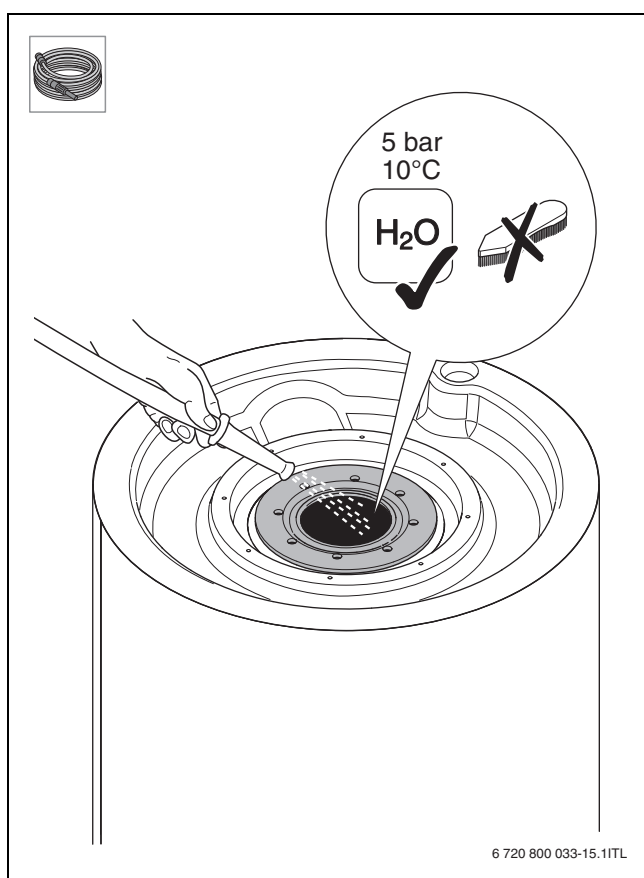

Fig. 21
- ▶ Rincer le ballon ECS (→ fig. 21, page 57).